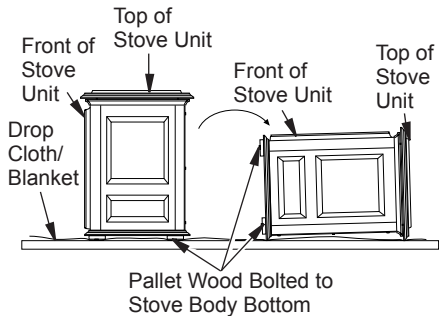

Figure 5 - Laying Down Stove On Side (Stove Style May Vary Depending on Model)
- (1) - Hardware kit bag with fasteners
5. Carefully lay stove body on back to attach bottom components to stove body (see Figure 5). Rest stove on drop cloth or blanket to avoid scratching stove edges.